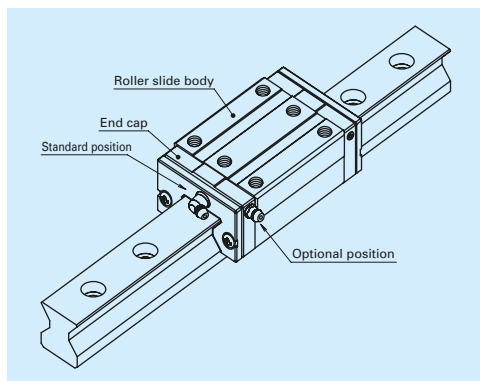

Fig. 11 Mounting position of lubrication accessories
(2) Mounting position of lubrication accessories
- The standard position of grease fittings and tube fittings is the end face of roller slide. We can mount them on a side of end cap for an option. (**Fig. 11**) Please consult NSK for installation of grease or tube fittings to the roller slide body or the side of end cap.